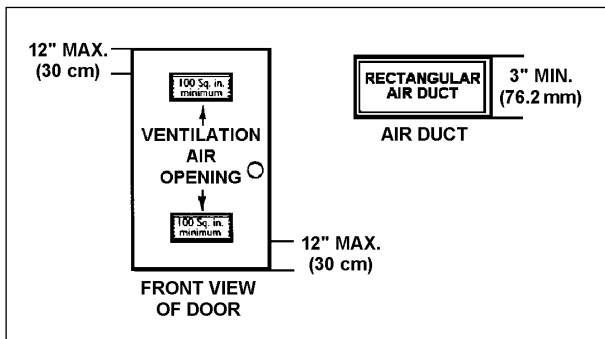

FIGURE 4.
A. ALL AIR FROM INSIDE BUILDINGS: (See Figures 4 and 5)